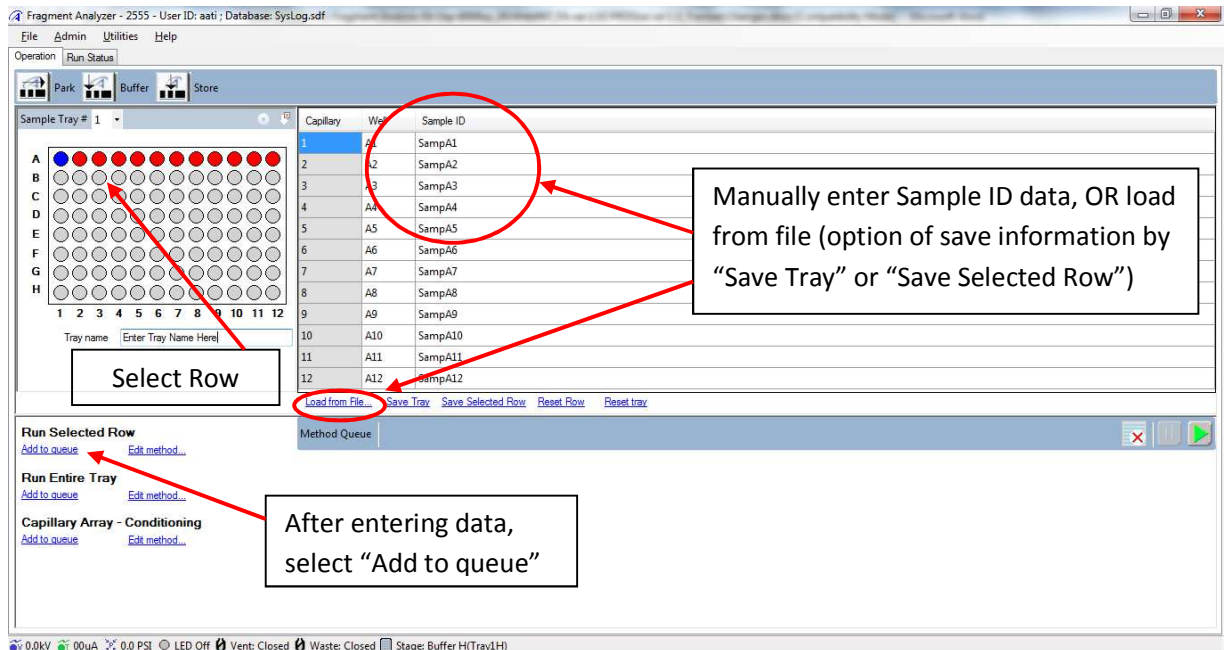

Figure 3. Main Screen showing selection of sample row and entering sample information
1. To set up an experiment, from the Main Menu of the *Fragment Analyzer*™ instrument control software, select the **Operation** tab (Figure 3). Select the sample tray location to be analyzed (1, 2, or 3) by left clicking the **Sample Tray #** dropdown or by clicking the appropriate sample plate tab (alternate plate view) and choosing the appropriate location. 96-Capillary Systems: Note that Sample 3 is typically assigned to the Capillary Storage Solution.
- Left click a well of the desired sample plate row with the mouse. The selected row will be highlighted in the plate map (e.g., Row A in Figure 3). Enter the sample name if desired into the respective **Sample ID** cell by left clicking the cell and typing in the name. Alternatively, sample information can be imported from .txt or .csv file by selecting the **Load from File...** option.